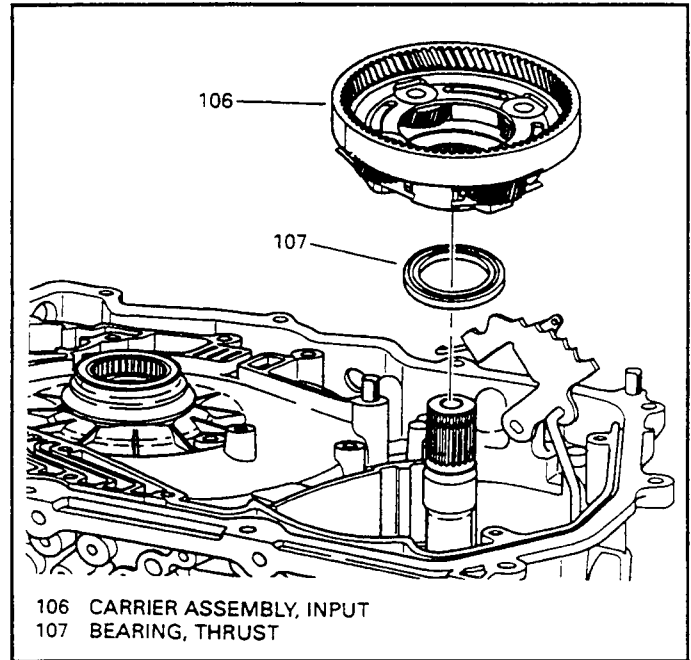

Figure 73
71. Remove the input carrier and reaction ring gear assembly, as shown in Figure 73.
72. Remove the input carrier to forward clutch hub thrust bearing (107) as shown in Figure 73.